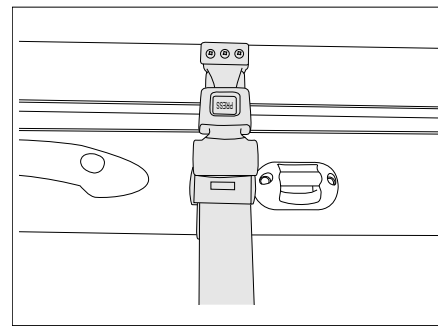

Fig. 160 Manual pull-down bed retaining belt
- Secure the pull-down bed to the roof by means of the retaining belt (Fig. 160).